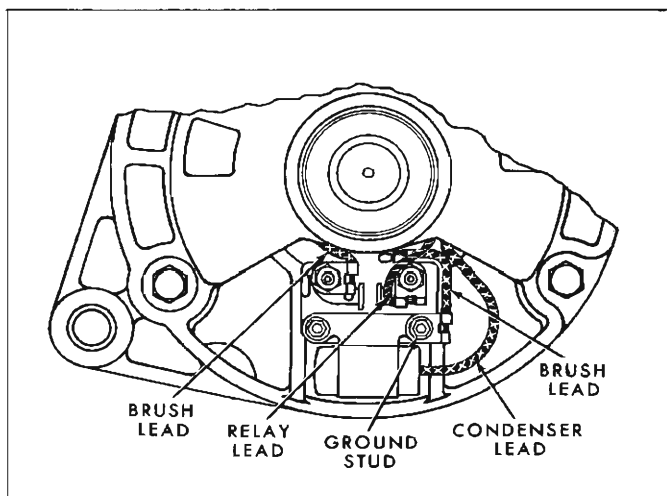

Fig. 19c—Lead Arrangement after Assembly
5. Rearrange leads as shown in Figure 19c with right-hand brush lead connected under the right hand hex-head stud.